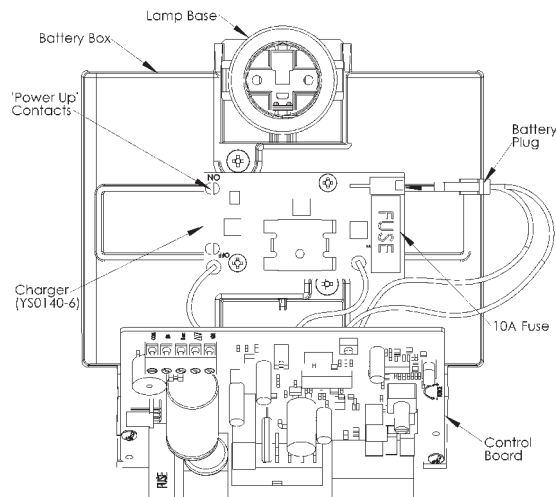

Fig.6
1. Remove power (including battery power if fitted.) (Disconnect the batteries by unplugging the 2-way connector on the battery charger board. Fig. 6, p16)